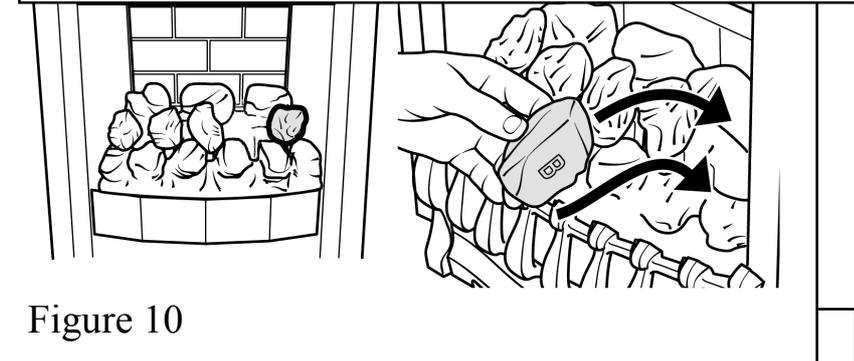

Figure 10
8. Place the remaining type "B" coal at the right side of the firebox between the front and rear base coals. The letter "B" should be upright. The coal should touch the right side of the firebox. See figure 10.